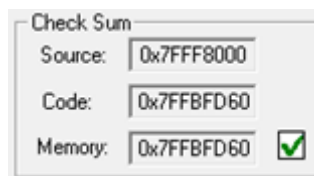

Figure 9.1: Check Sum information compared between the file and MCU memory.
The main dialog has three values for check sum (CS) calculation for programming purposes (Figure 9.1). These are the **Source**, **Code**, and **Memory** values.